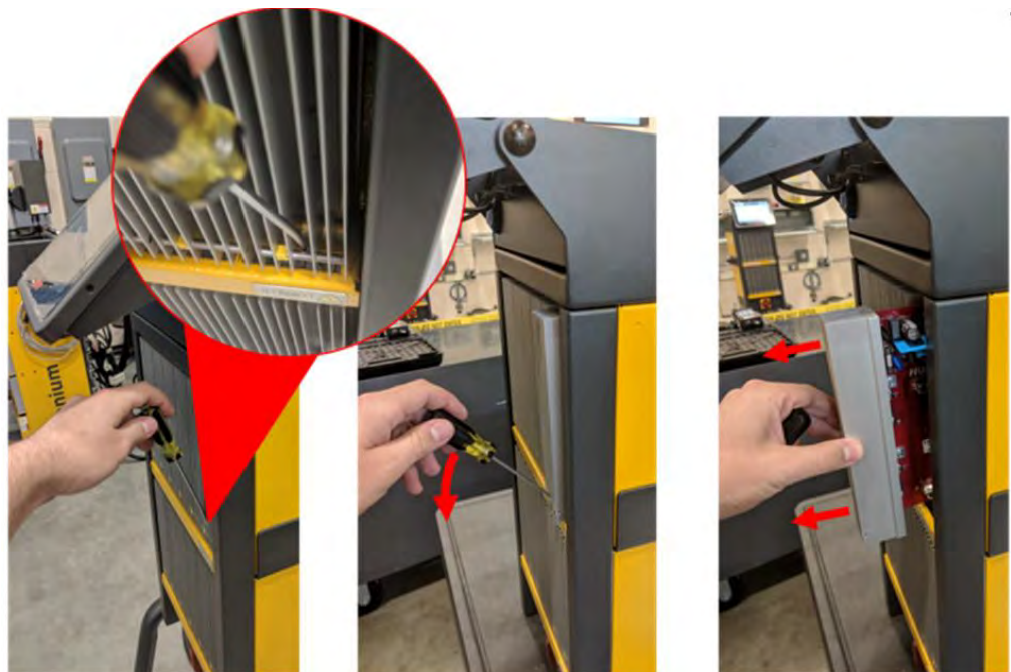

Figure 16-13 ICC Removal
3. Slide a screwdriver between the silver post and the ledge on the cabinet and gently pry the card out (refer to Figure 16-13).